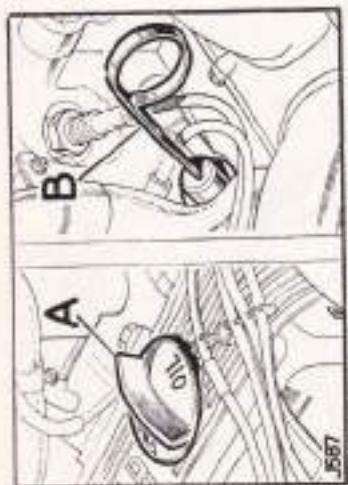

Fig. 1 Engine oil filter cap and oil level dipstick
**Engine oil level. (Fig. 1)**